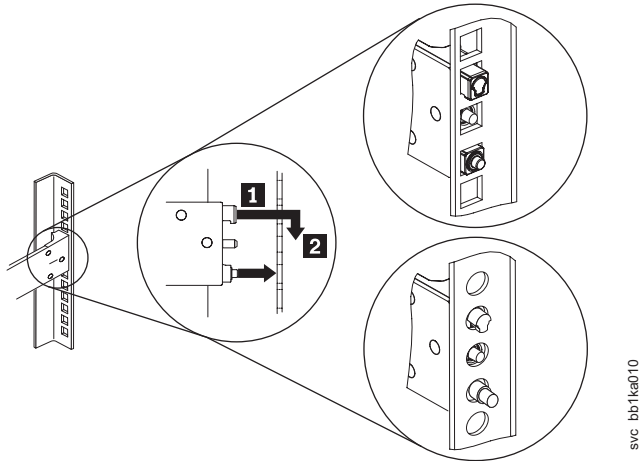

Figure 22. Installing the rear of a SAN Volume Controller 2145-CF8 slide rail in the rear of the rack
- b. Push the rails so that the pins go into the holes, as shown by **1** in Figure 22 on page 26.